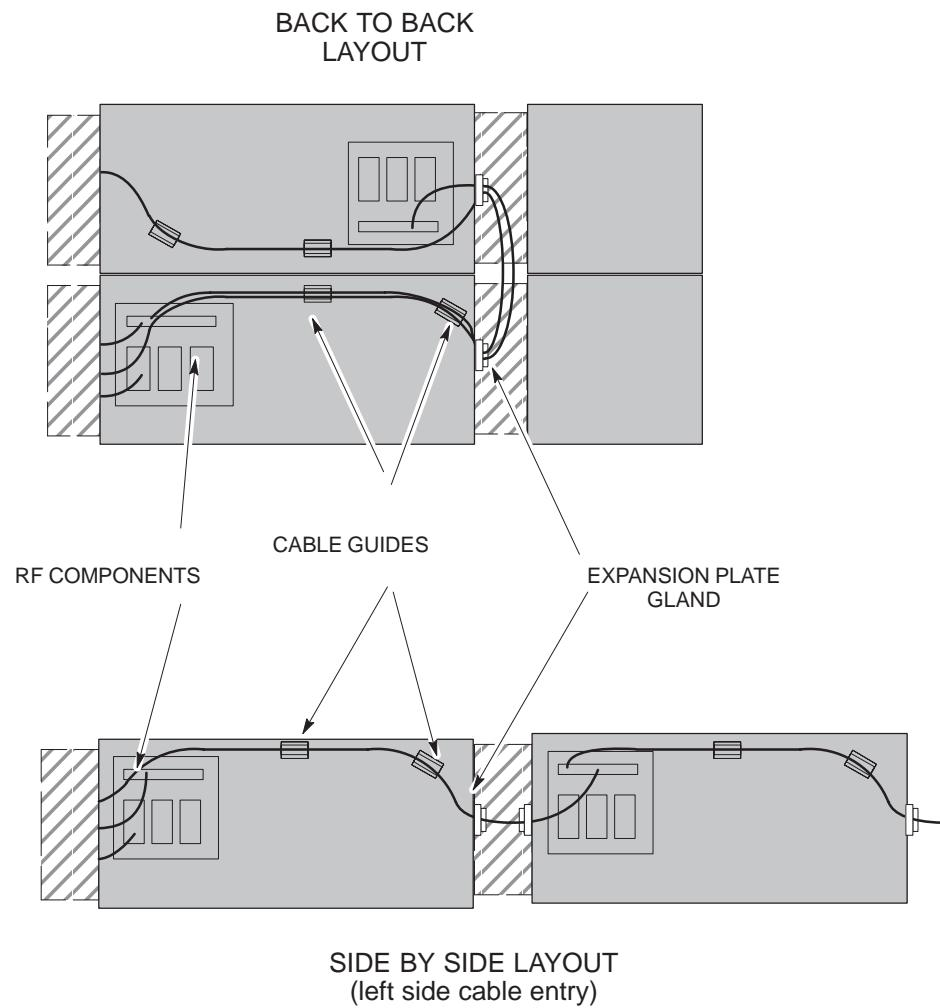

Figure 4-8 Guide to cable routeing through multiple cabinets
6. Make the dc power, fibre optic and signal connections between the two cabinets, (see Figure 4-8 for routeing), and then bolt the cabinet or AEH to the floor.
7. Make any RF connections, appropriate to the site configuration (see Figure 4-8 for routeing and **Suggested RF configurations**), between the cabinets. Remove the required number of blanking plugs and fit both multi-cable glands over the RF cables.
Figure 4-8 shows a representation of the RF interconnection cable routeing through the cabinets for multiple cabinet sites. Fibre optic interconnections follow similar routeing. Cable routeing for more complex layouts may be derived from these basic diagrams.